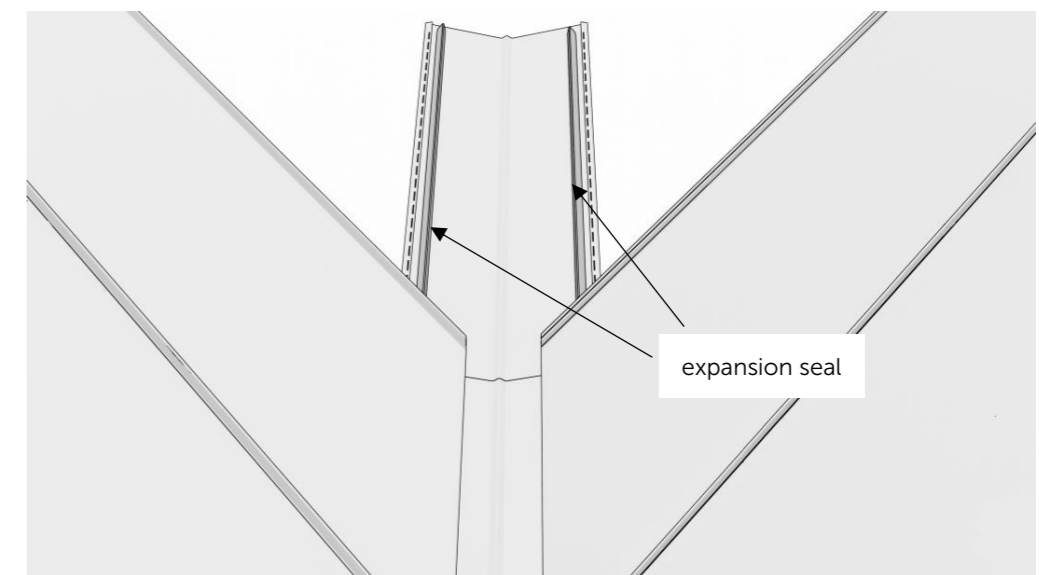

Fig. 20
- Between the valley gutter flashing and the sheeting the expansion seals must be used (Fig. 20).